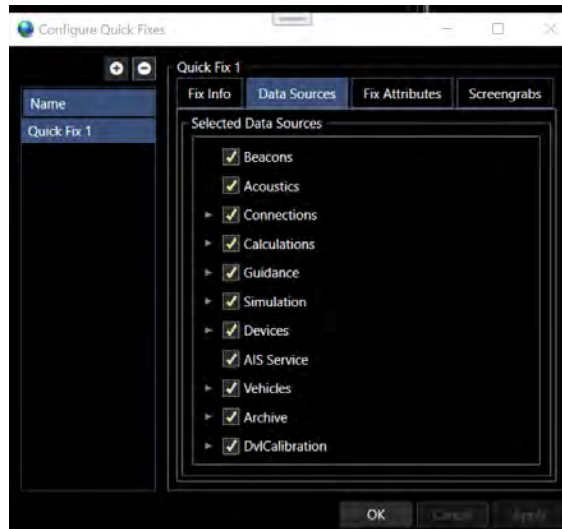

FIGURE 14-43 CONFIGURE QUICK FIXES - DATA SOURCES TAB
4. In the **Data Sources** tab (see Figure 14-43)